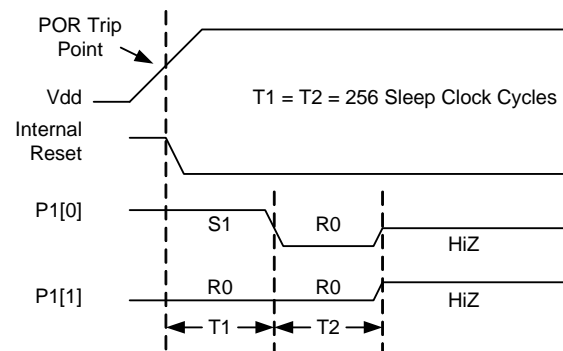
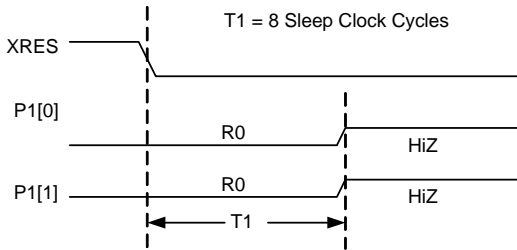

Figure 30-1. P1[1:0] Behavior on Power Up
Figure 30-2. P1[1:0] Behavior on External Reset (XRES)
Power on Reset and External Reset cause toggling on two GPIO pins, P1[0] and P1[1], as described below and illustrated in Figure 30-1 and Figure 30-2. This allows programmers to synchronize with the PSoC device. All other GPIO pins are placed in a high impedance state during and immediately following reset.
At power up, the internal POR causes P1[0] to initially drive a strong high (1) while P1[1] drives a resistive low (0). After 256 sleep oscillator cycles, the P1[0] signal transitions to a resistive low state. After additional 256 sleep oscillator clocks, both pins transition to a high impedance state and normal CPU operation begins. This is illustrated in Figure 30-1.
During External Reset ($XRES=1$), both P1[0] and P1[1] drive resistive low (0). After XRES deasserts, these pins continue to drive resistive low for another 8 sleep clock cycles. After this time, both pins transition to a high impedance state and normal CPU operation begins. This is illustrated in Figure 30-2.